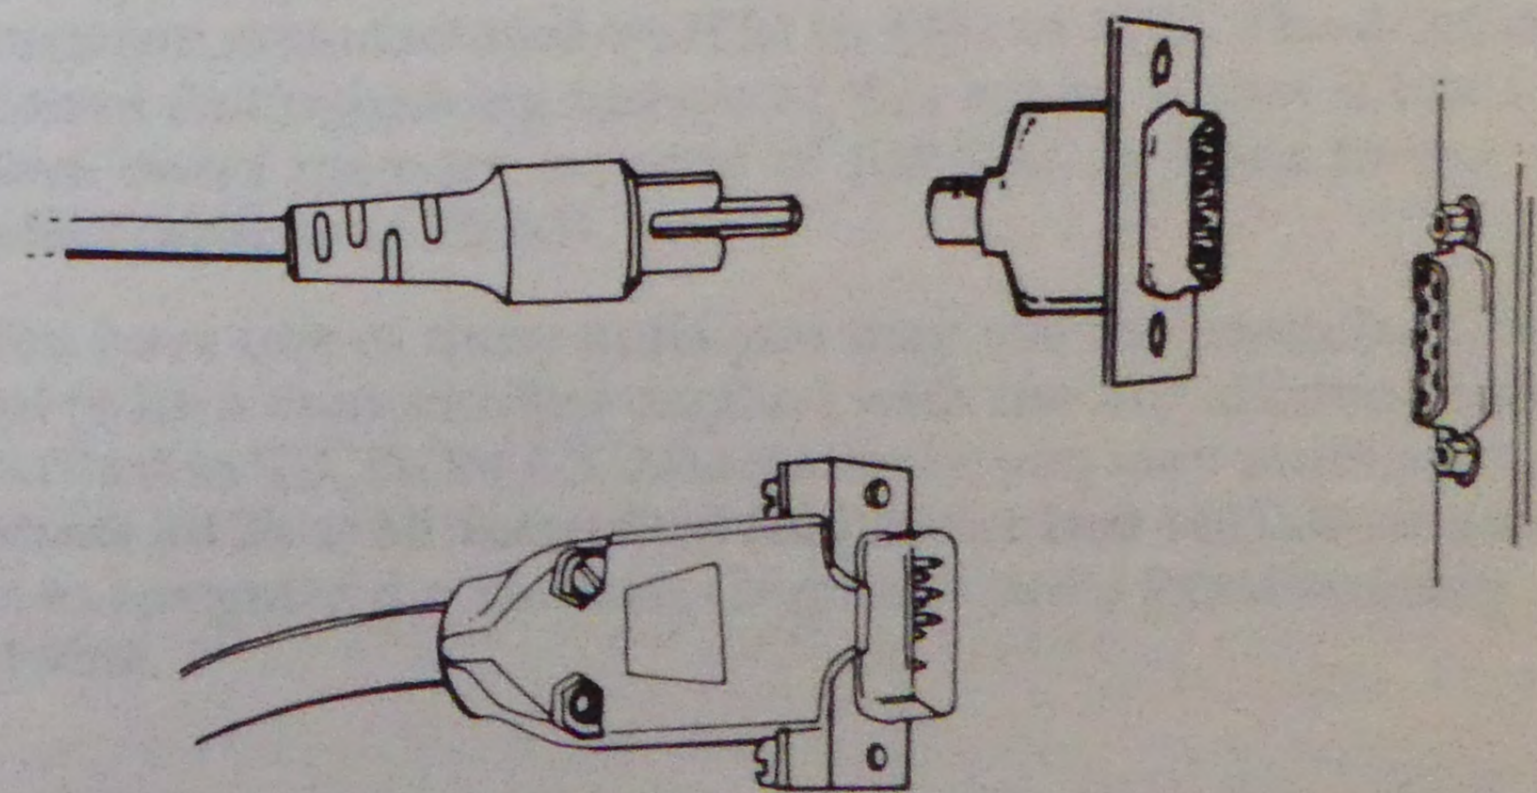

Figure 5.3
Step 6. Figure 5.3 (below) illustrates the types of data cables commonly found on monitors compatible with the Modular Graphics Card. IBM monochrome (or equivalent) displays as well as most RGB color displays come equipped with a standard 9 pin connector that will plug directly into the Modular Graphics Card. Composite video monitors will require an adapter available at no charge from either your Paradise Systems Dealer or directly from Paradise Systems, Inc.